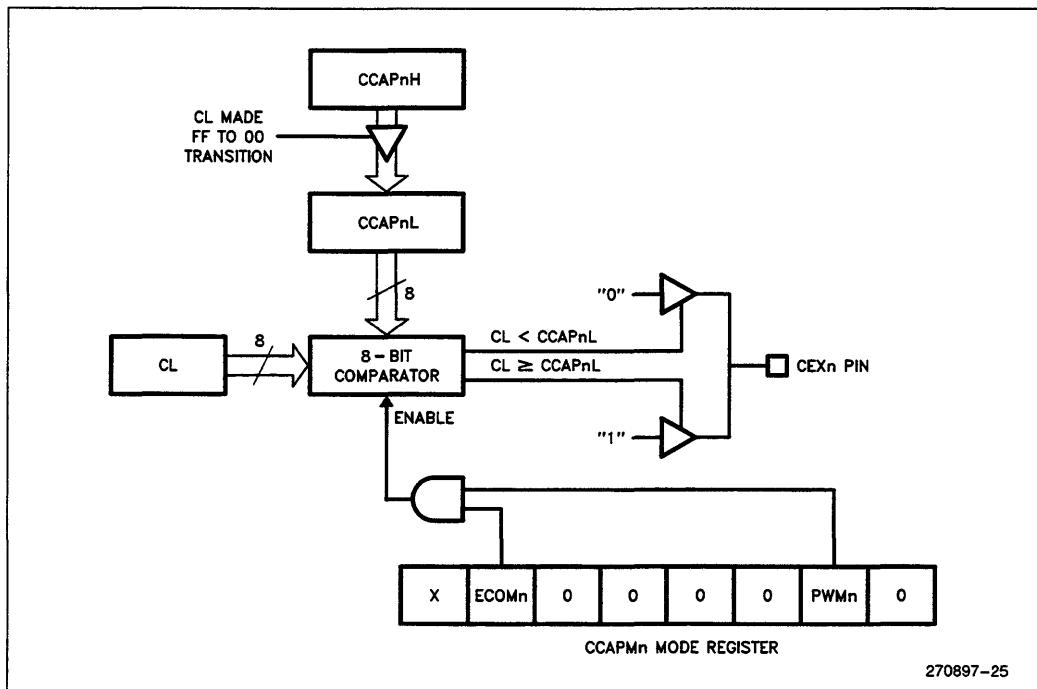

Figure 23. PCA 8-Bit PWM Mode
For this mode, the ECOMn bit and the PWMn bits in the CCAPMn mode register need to be set. The PCA generates 8-bit PWMs by comparing the low byte of the PCA timer (CL) with the low byte of the module's compare registers (CCAPnL). When CL < CCAPnL the output is low. When CL > CCAPnL the output is high. Refer to Figure 23.